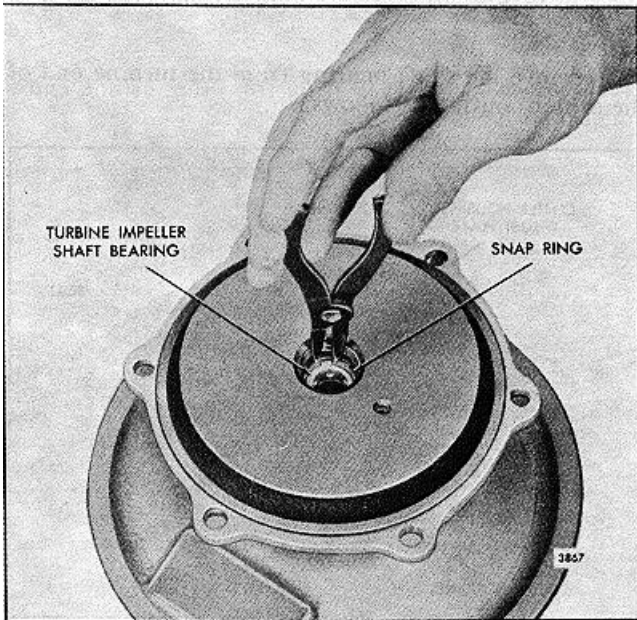

FIG. 19 - Removing Shaft Bearing Retaining Ring
- a. Place the center housing, turbine housing end up, on the bench (Fig. 19).